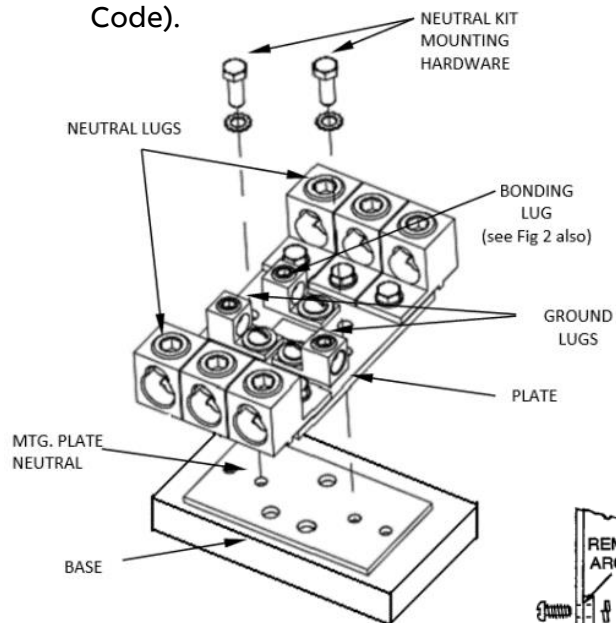
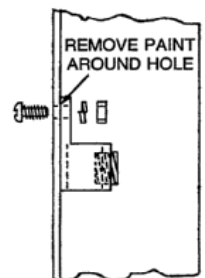

Figure 1. TNI66C Neutral
Figure 2. Bonding lug installation
TNI67C and TNI68C neutral kits are CSA listed for use as insulated groundable neutrals. TNI67C is for use in type TH3367C and TH3367RC 800Amp safety switches. TNI68C is for use in type TH3368C and TH3368RC 1200Amp safety switches. Each kit contains the following parts (see Figure1):
Step 2. Mount neutral kit to mounting plate and base as shown in Figure 1. Torque fasteners to 50-60 in-lbs.
Step 3. Install bonding lugs as shown in Figure 1 and Figure 2 (if required). Drill an 11/32" diameter hole through the enclosure at a convenient location. Remove the paint on the enclosure where the bonding lug will be installed. Torque mounting fastener to 40-45 in-lbs. Install bonding jumper (not provided) between bonding lugs and torque lug screws to 275 in-lbs (size jumper wire according to the National Electric Code).